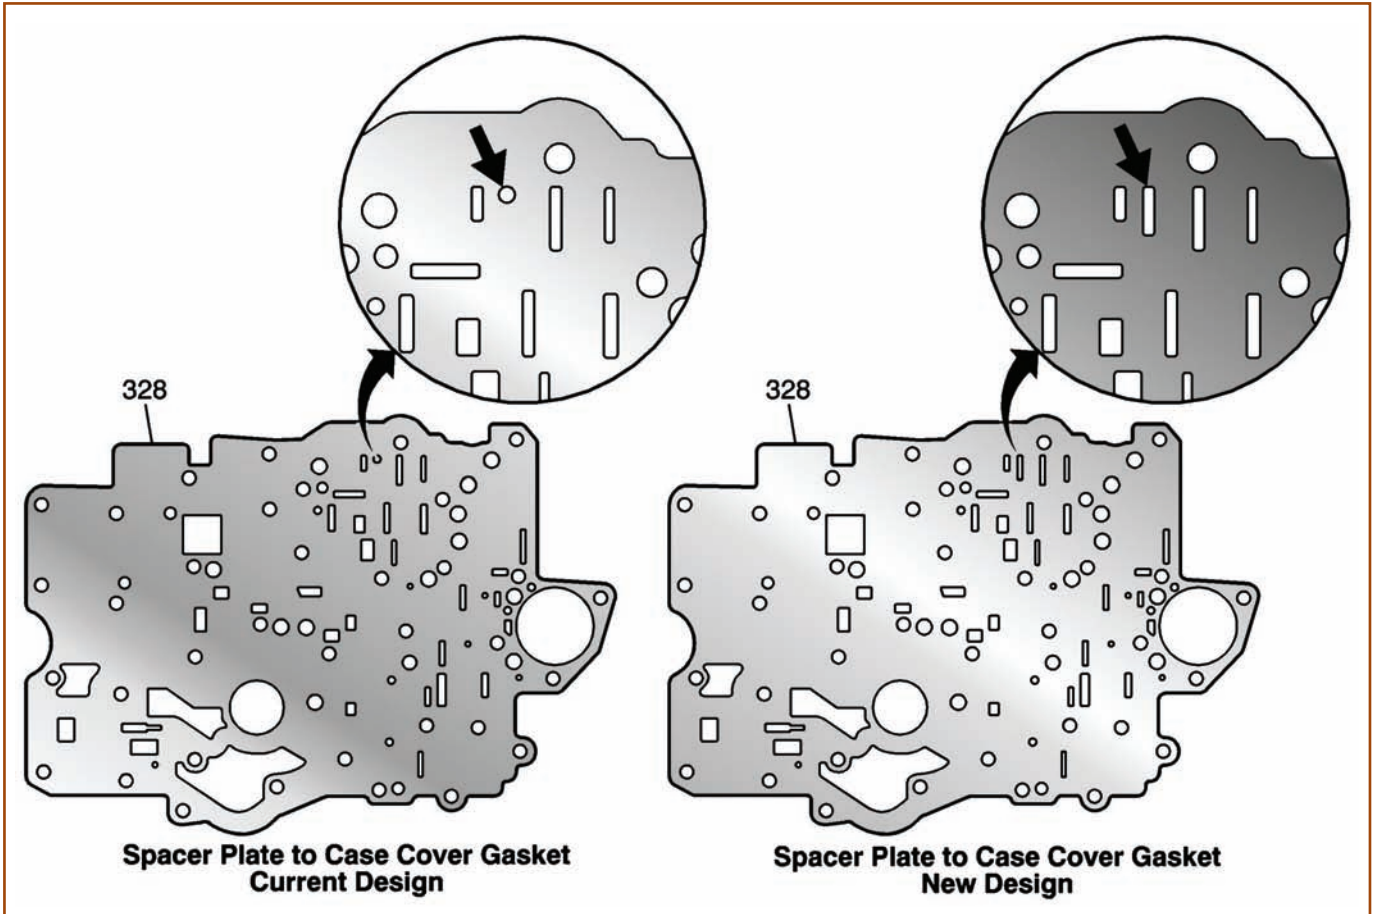

Figure 4
- A new valve body gasket (Figures 4 & 5).